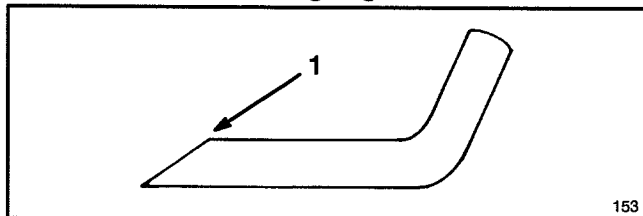

Figure 23
6. SHARPENING BLADE—Using a file, sharpen top side of blade (side facing top of mower housing) and maintain original cutting angle (Fig. 23). The blade remains balanced if the same amount of material is removed from both cutting edges.